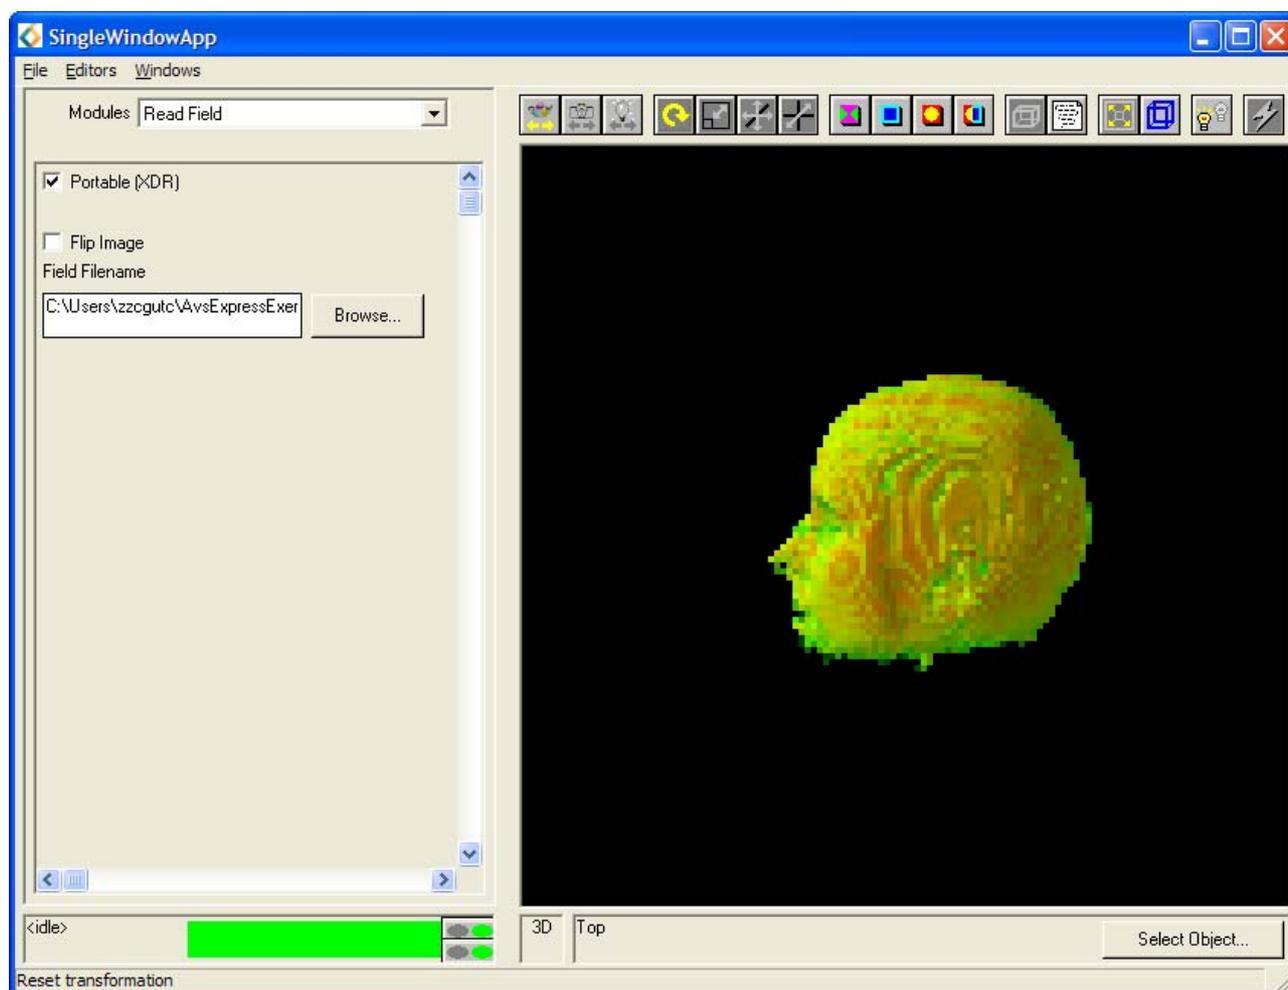

Figure 4.21: volume\_render Editor Panel
- Select the volume\_render module Editor Panel as shown in Figure 4.21.